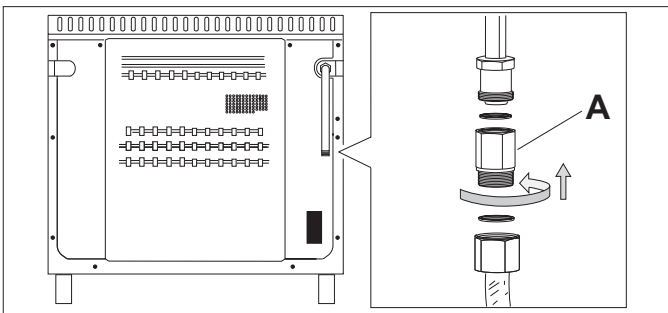

Fig. 11
- 2) by flexible tube in stainless steel with continuing wall, with mechanical connection in accordance with rules (see fig. 11).
**WARNING:** connect the gas to the oven's gas supply line using the supplied connector (A) (see figure 11)